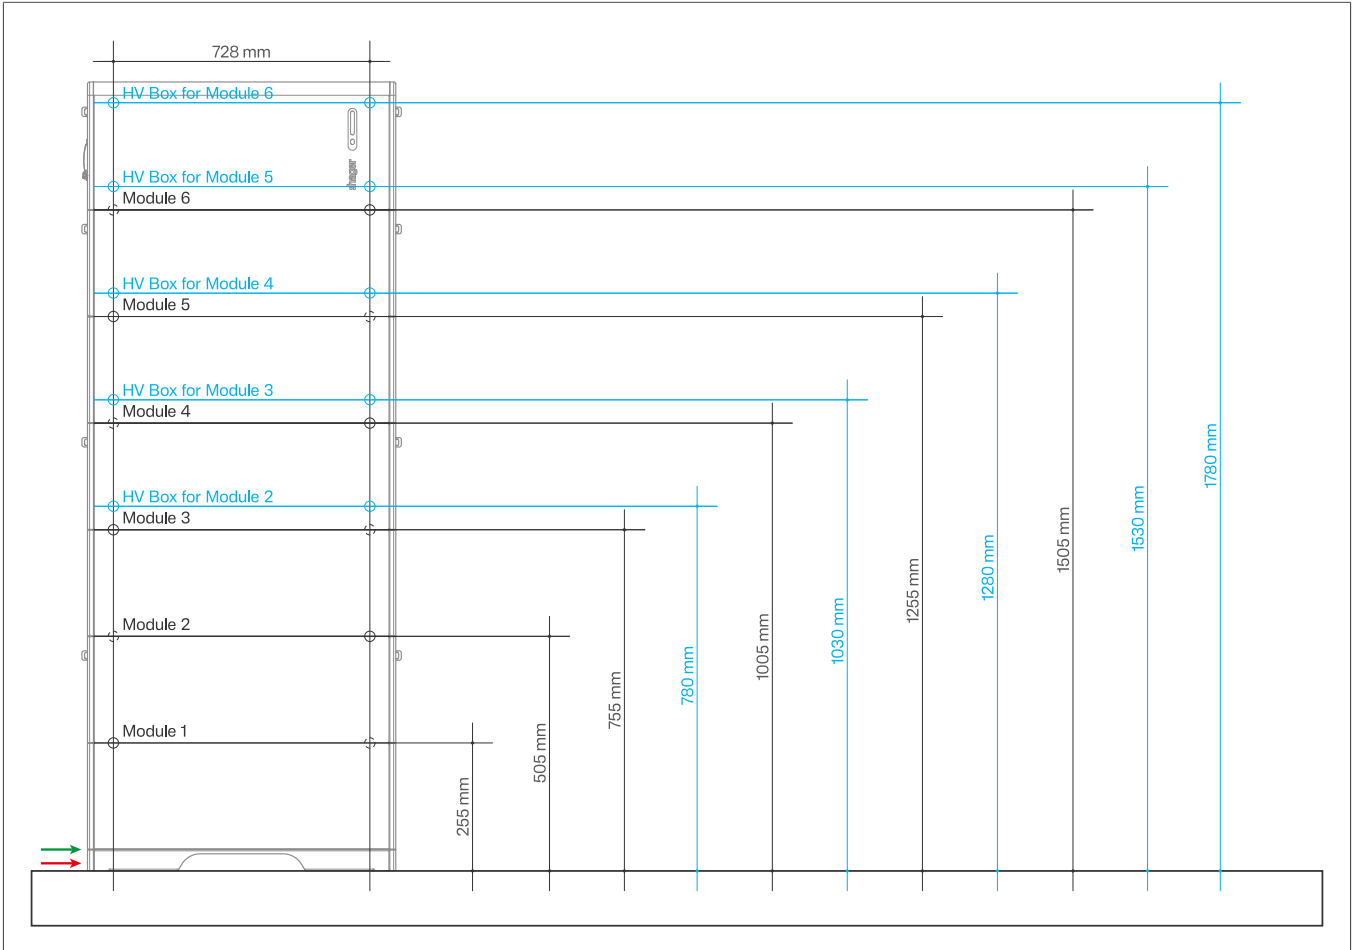

Fig. 17: Dimension drawing of the supplied drilling template (similar to figure)
The drilling template is properly aligned when the line (green arrow in Fig. 17) at the bottom of the drill template is flush with the top edge of the base plate.
- 2 Remove the double-sided adhesive tape from the supplied drill template and stick it to the wall. Alternatively, the dimensions can also be transferred from Fig. 17 to the wall.